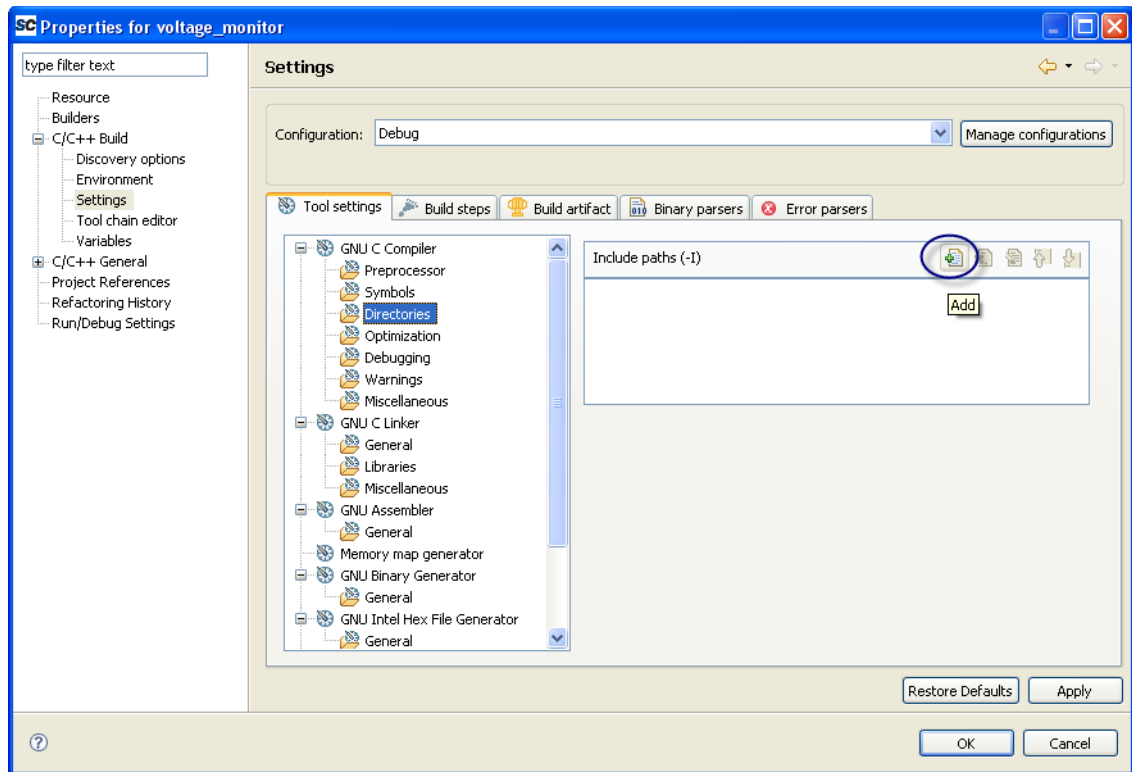

Figure 3-9 · GNU Compiler Directory Settings
3. Click GNU C Compiler > Directories (Figure 3-9).